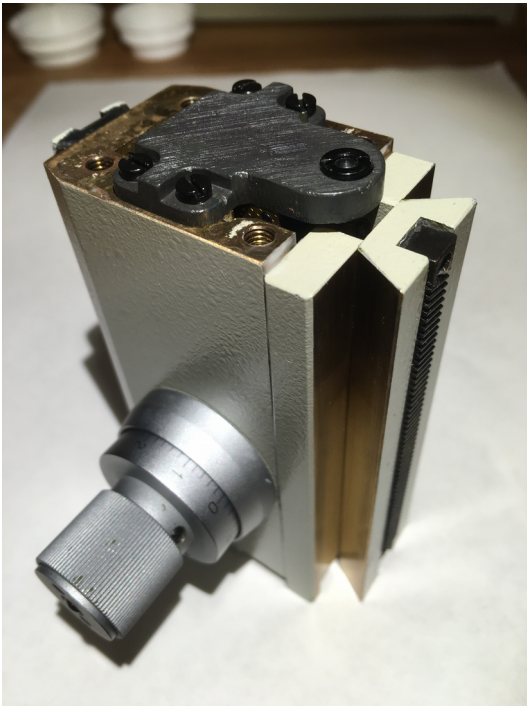

Figure 7
* Remove four screws from the bottom side of the focus block that fastens the black base plate of the fine-focus gear cluster. (Figure 7)